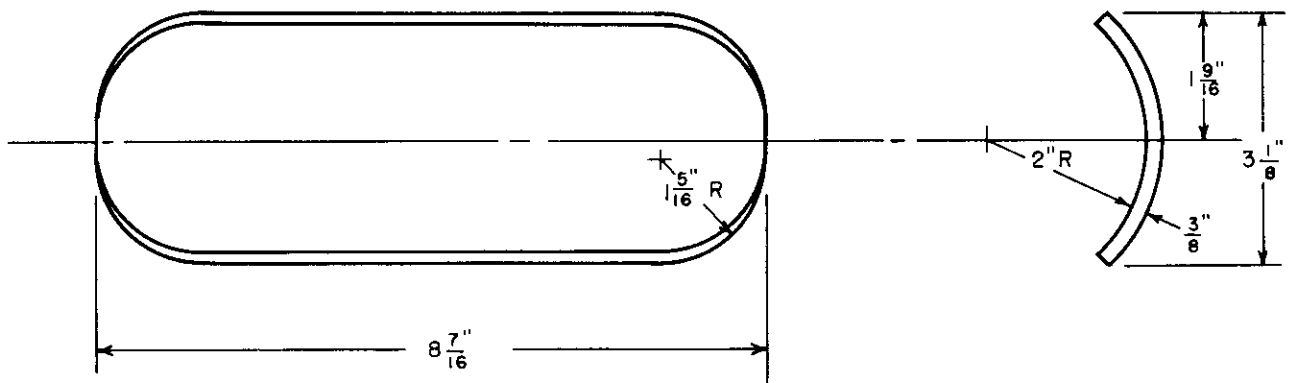

Fig. 3 - Exhaust Tube Plate
10. Fabricate two exhaust tube plates as per Fig. 3.